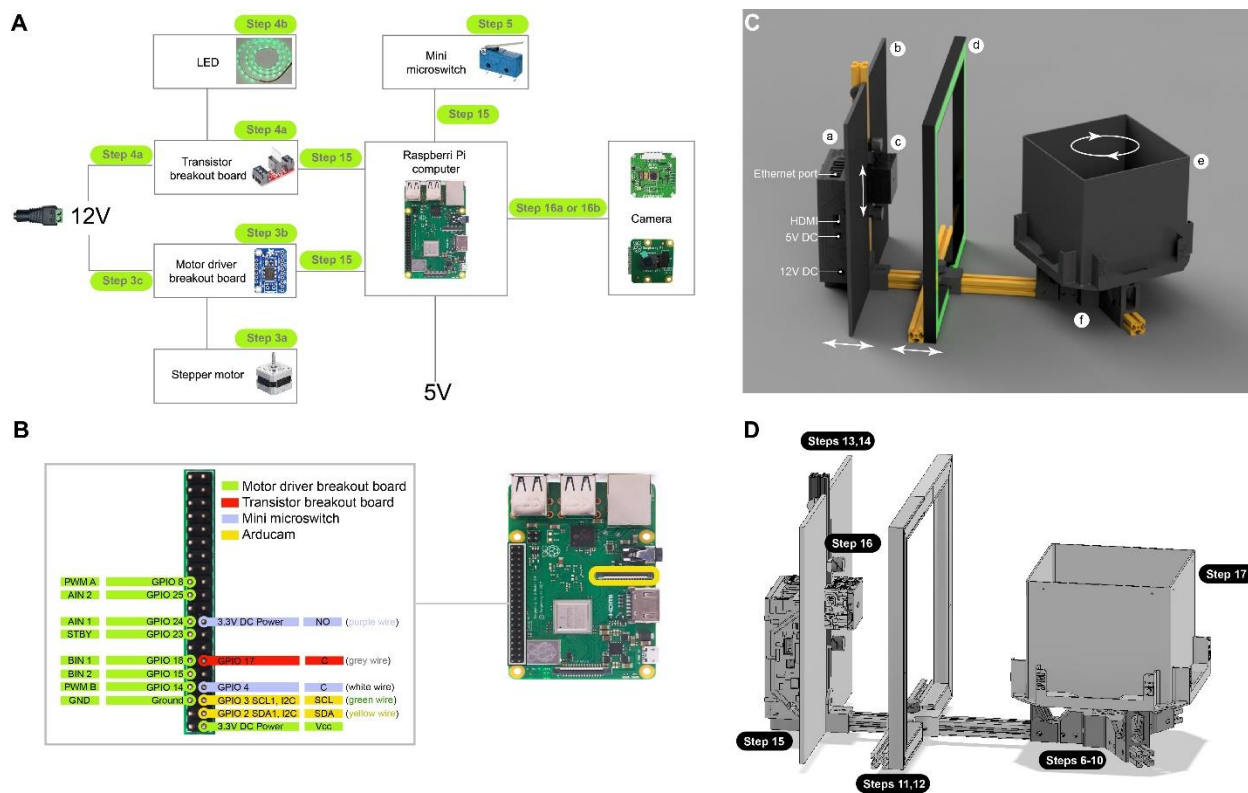

Figure 1. SPIRO Electronics components.
- Solder the resistor, transistor and both screw terminals to the SparkFun MOSFET power control kit (4a. Figure 1 A-C).